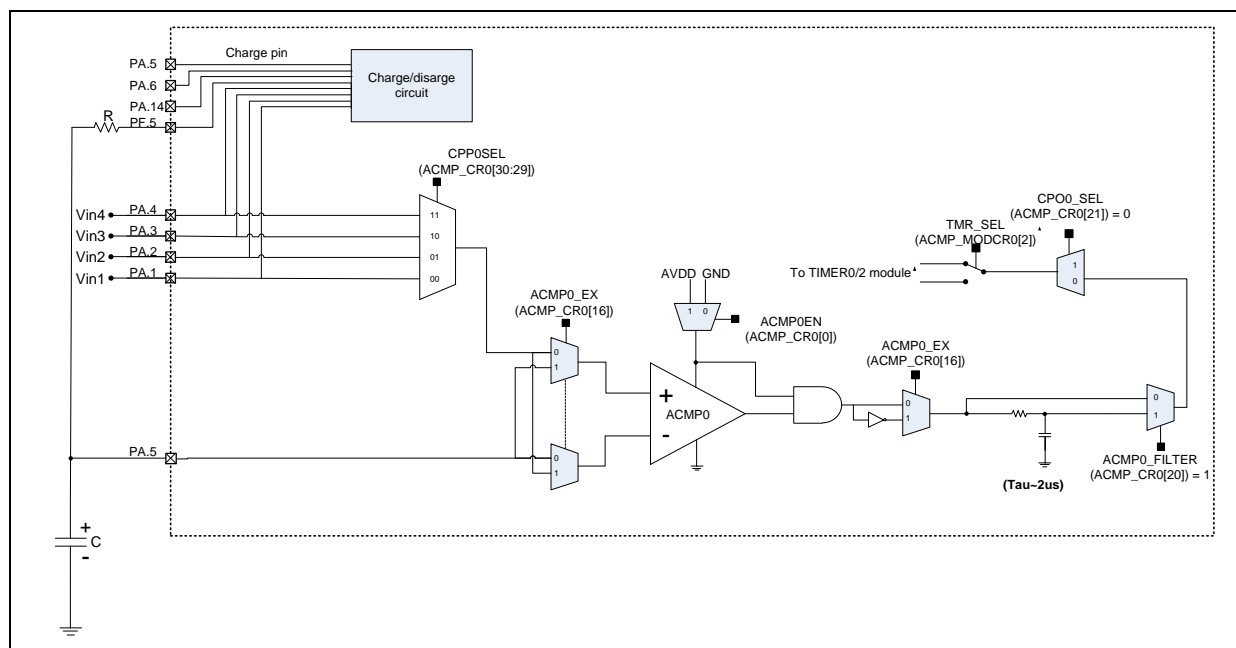

Figure 6-136 ACMP Sigma-Delta ADC Mode Reference Circuit
- **Phase I:** Drive “charge/discharge pin” high to charge capacitor (C in Figure 6-136) until the ACMP0\_O reverses and then start TIMER0.